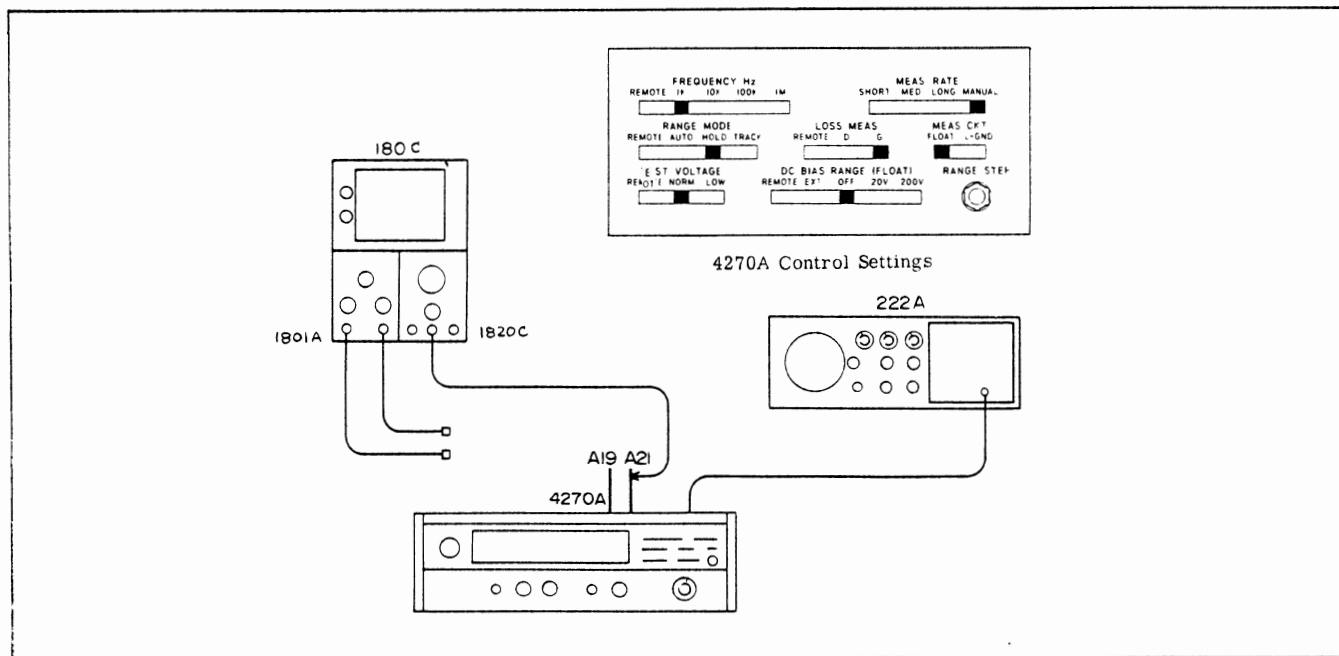

Figure 5-10. Test Set-up
- e. Set the 4270A controls as shown in Figure 5-10 and STORAGE ON/OFF switch on A25 board to OFF. Select 1000pF RANGE.
- a. Connect the equipment as shown in Figure 5-10 and set all of the controls as described in paragraph 5-76.
- a. Connect equipment as shown in Figure 5-10 and set all of the controls as described in paragraph 5-76.